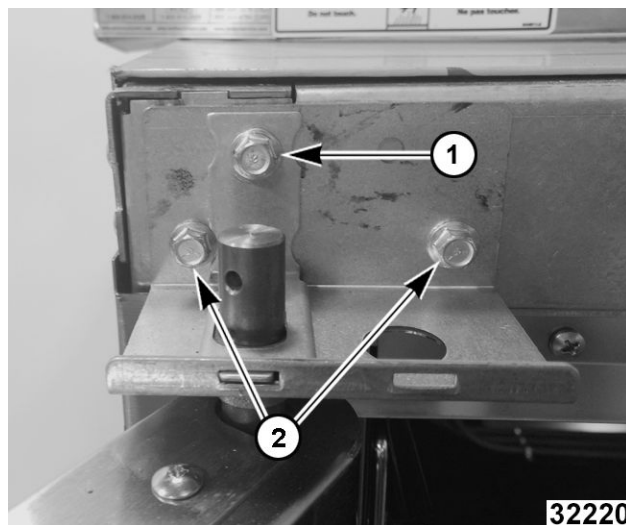

Fig. 46
3. While supporting door, remove hex bolts holding upper bearing retainer (1, Fig. 46) and upper shaft bracket (2, Fig. 46).